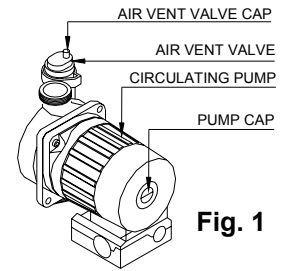

Fig. 1
- make sure the cap on the auto air vent valve is slightly loose to allow air to escape from the system (see fig. 1 pag 10);
- before starting up the boiler the water pressure must be checked again; if this is seen to be below 0.5 bar, bring it back up to 1.5 bar (light no. 11 ON; see fig. 1) **and then close the filling tap** located under the boiler;
- set ON/OFF switch in ON position (see fig.1), after a few seconds the pump will come into operation;
- fill the system until a pressure of 1.5 bar has been reached (light no. 11 ON; see fig. 1 pag. 9) and then close the tap on the filling loop;
- before starting up the boiler the water pressure must be checked again; if this is seen to be below 0.5 bar, bring it back up to 1.5 bar (light no. 11 ON; see fig. 1 pag. 9) **and close the tap on the filling loop**
- set ON/OFF switch in ON position (fig.1 page 9), after a few seconds the pump will come into operation;